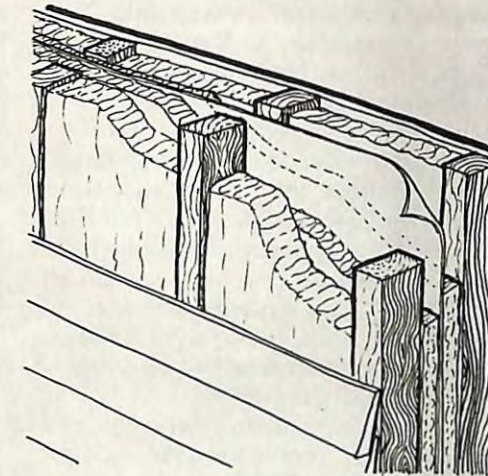

Figure 2
2. Double stud wall with a polyethylene vapour barrier half way through the wall. (Fig. 2)